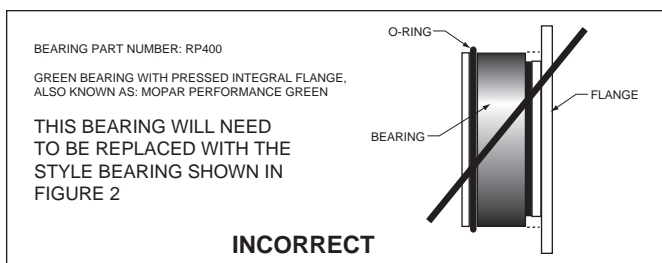
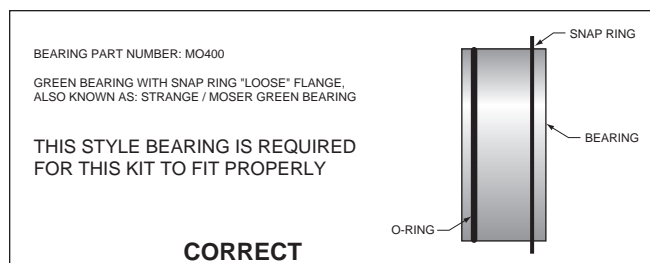

Figure 1. Press Fit Bearing Configuration
Figure 2. Loose Fit Bearing Configuration
- There are two types of “Green Bearings” being supplied by axle manufacturers. Your setup should look like Figure 2 (below right), not the Figure 1 configuration, otherwise this kit will not fit.
- Determine that the appropriate snap ring style green bearing has been installed on the axle, as shown in Figure 2. Temporarily remove snap ring from bearing. Orient the bracket assembly (1) as shown in Figure 3 and Photo 1 and slide it onto the axle and over the bearing. Reinstall snap ring on bearing. Insert the axle and bracket into the axle housing. Ensure that the bracket assembly backing plate fits flush against the axle housing flange.